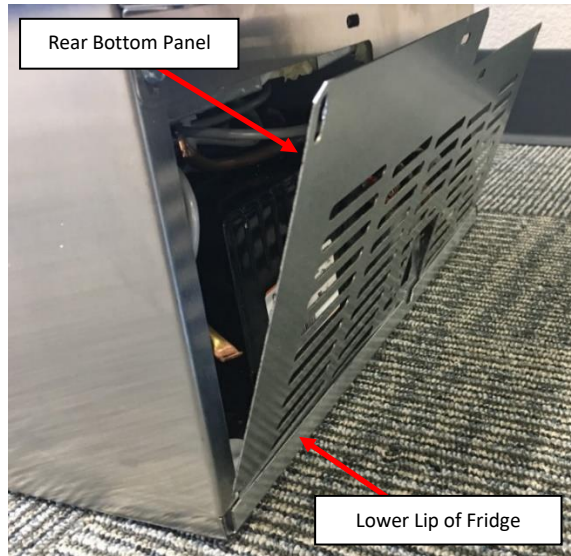

Figure L30: Bottom Back Panel under the Lower Lip of the Fridge.
27. Slide the Rear Bottom Panel under the Lower Lip of the NITCOM Refrigerator so that the Square Cutout aligns over the Black Power Plug. **See Figure L30.**